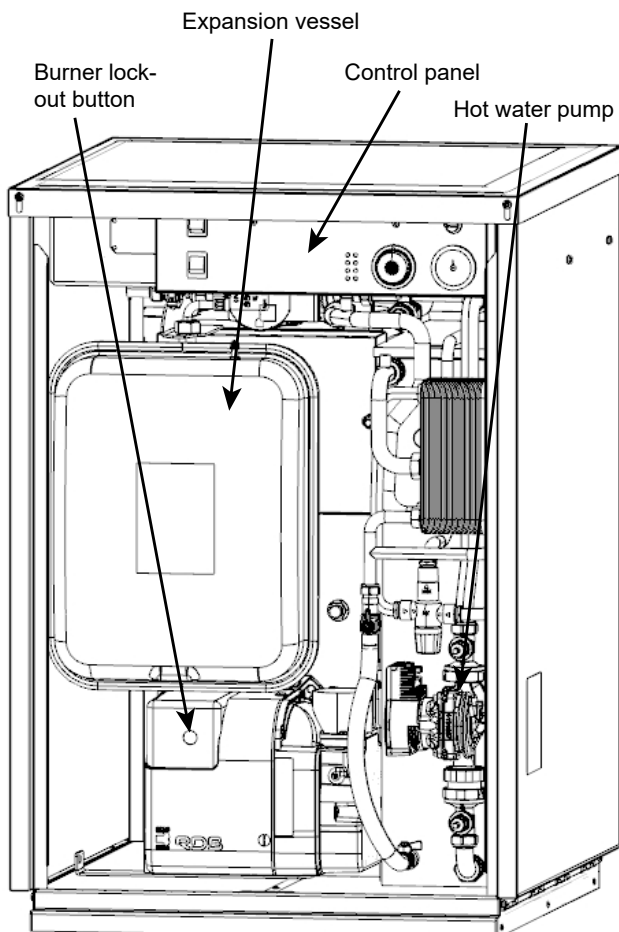
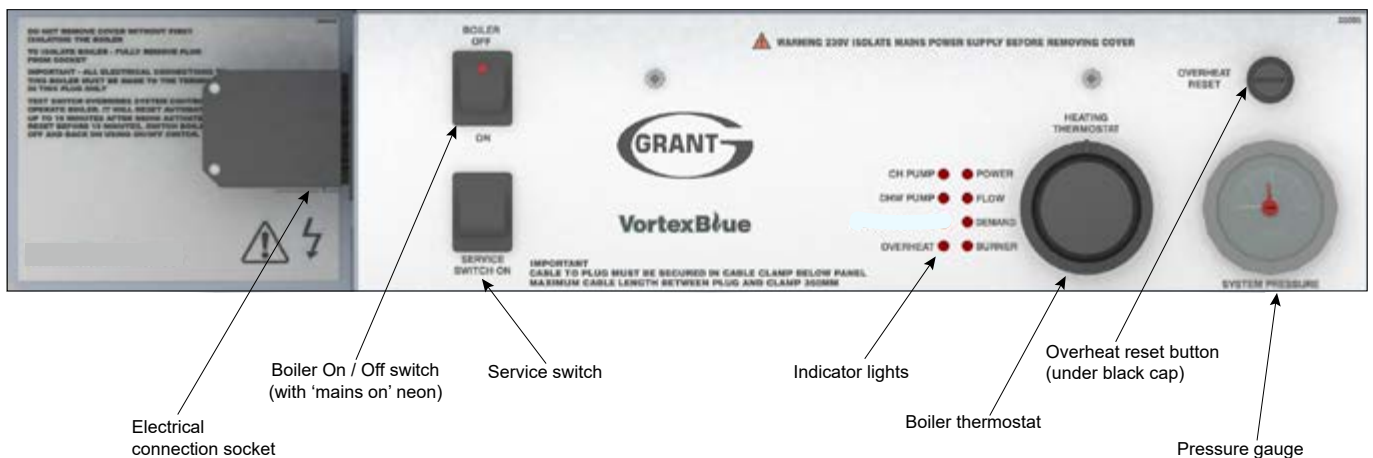

Figure 1-1: Boiler components
Figure 2-1: VortexBlue External combi boiler control panel
To gain access to the boiler controls, remove the front casing door by turning the handle at the bottom anti-clockwise, pulling the door out at the bottom and withdrawing it from the casing to reveal the boiler components and controls as shown in Figure 1-1.
5. Check if the burner 'Lock-Out' reset button on the burner body (refer to Figure 1-1 for location) is lit.
Refer to Figure 1-1 for the location of the control panel within the boiler casing and Figure 2-1 for the details of the control panel.
If your boiler goes off and you try to light it but nothing happens and the 'Lock-Out' reset button on the burner is not lit, the overheat thermostat has probably operated. The OVERHEAT indicator LED on the control panel will also be flashing if the overheat thermostat has tripped (see Figure 2-1).
To reset the overheat thermostat, unscrew the small plastic cap marked "reset" (see Figure 2-1), press the button and replace the cap.
A test switch is fitted to the control panel (see Figure 2-1) to allow the Service Engineer to test-fire the boiler without requiring access to the inside of the property.
These 7 red lights, located on the boiler control panel, indicate the operating situation of the boiler. Refer to Figure 2-1 for the position of these lights on the boiler control panel.